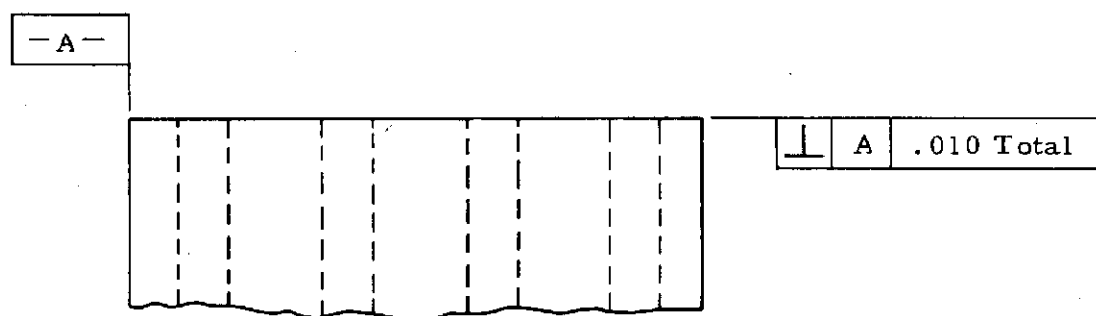

Figure 2
- (1) Ends of the cable shall be cut perpendicular to the edge of the cable within the limits shown in Figure 2.